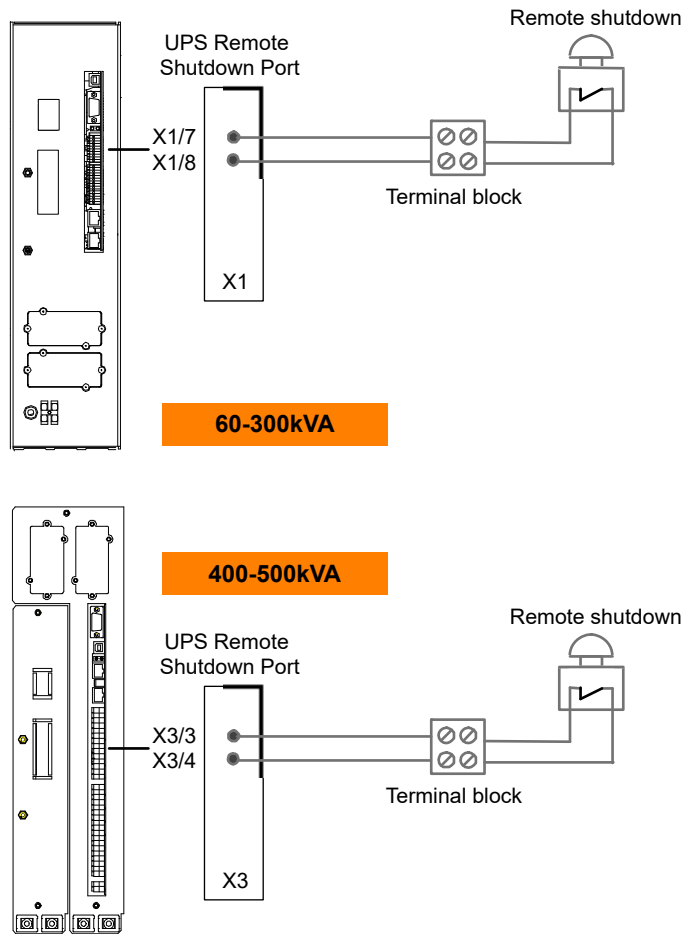

Figure 8.3 Remote emergency stop cabling
The remote stop facility comprises a normally-closed circuit connected between terminal X1/7 and X1/8 (or X3/3 and X3/4) on the communication card located on the PowerWAVE 6000 front frame (see Figure 8.3).
2. Connect the cable as shown in Figure 8.3.